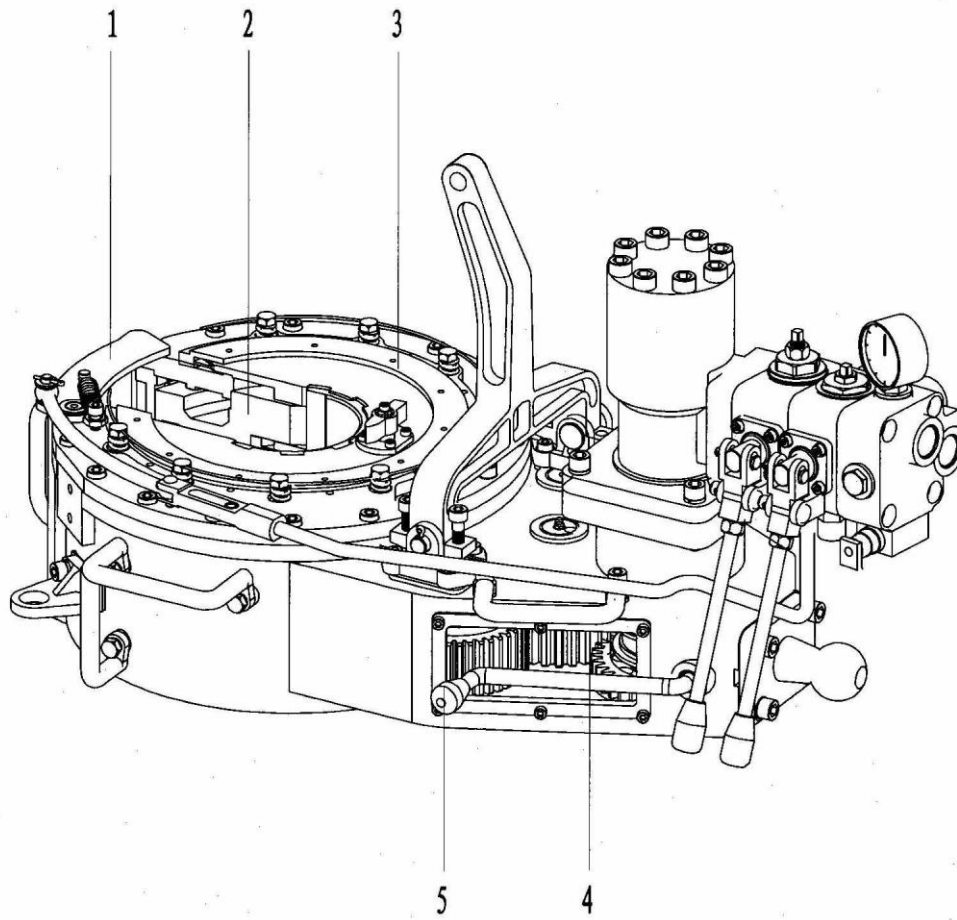

Fig.19
- 11.2 Master tong and parts list (Fig.19, Table 6)
11.2 Master tong and parts list (Fig.19, Table 6)